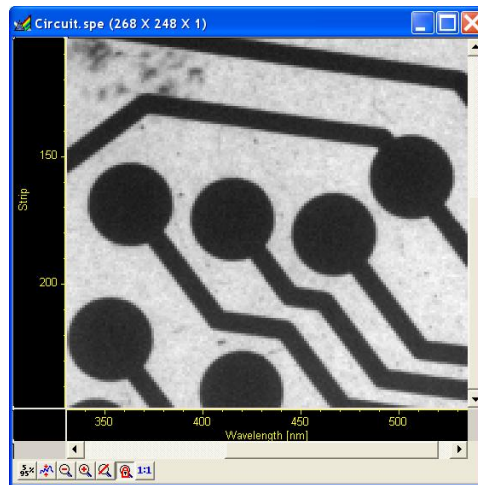

Figure 96. Circuit.spe Expanded to show Defined Region
2. Click on the  (Zoom In) button. The view will change so that only the selected region is displayed as shown in Figure 96.